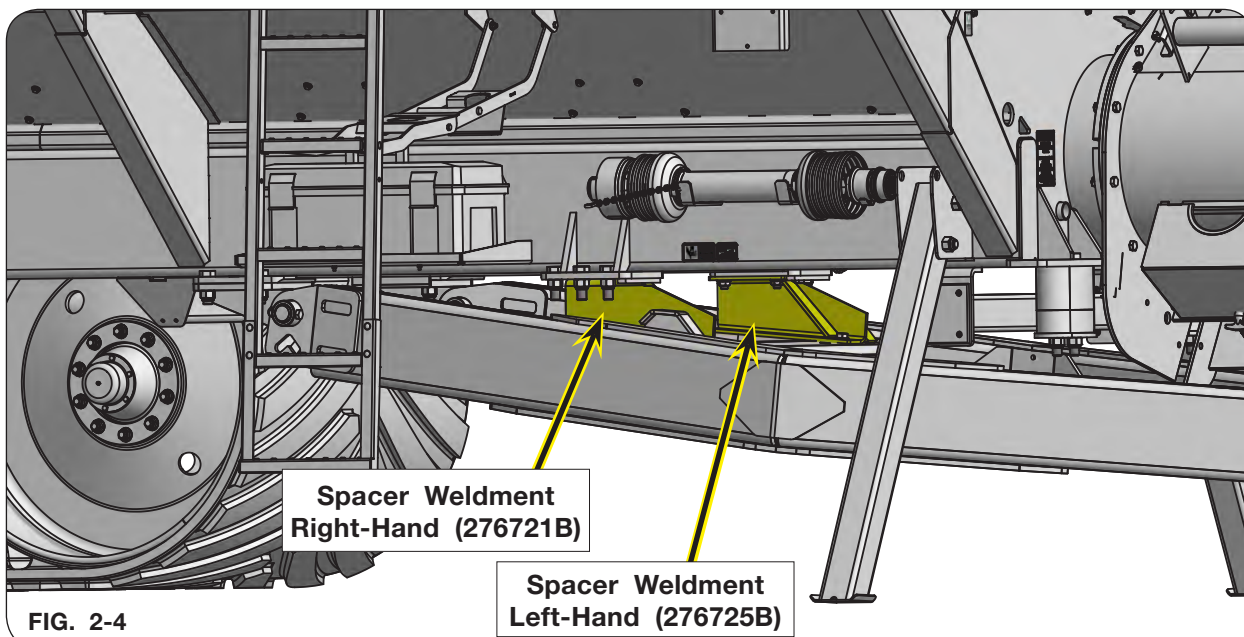

FIG. 2-4
6. Remove and discard the 3/4"-10UNC locknuts (9003399), 3/4" SAE flat washers (9405-104), 3/4"-10UNC x 2 1/4" capscrews (9390-146), and spacer weldments (left-hand 276725B and right-hand 276721B) from the tongue. (FIG. 2-4)